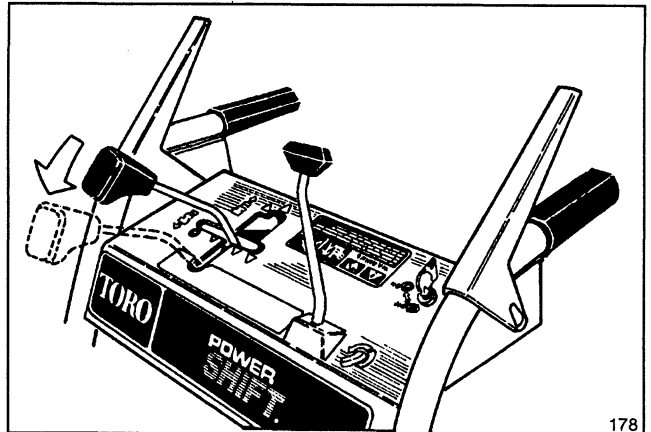

Figure 9
- Manually move wheels to the rear Power Shift position by lifting up on handles and moving the shift control fully forward to Power Shift position (Fig. 9).